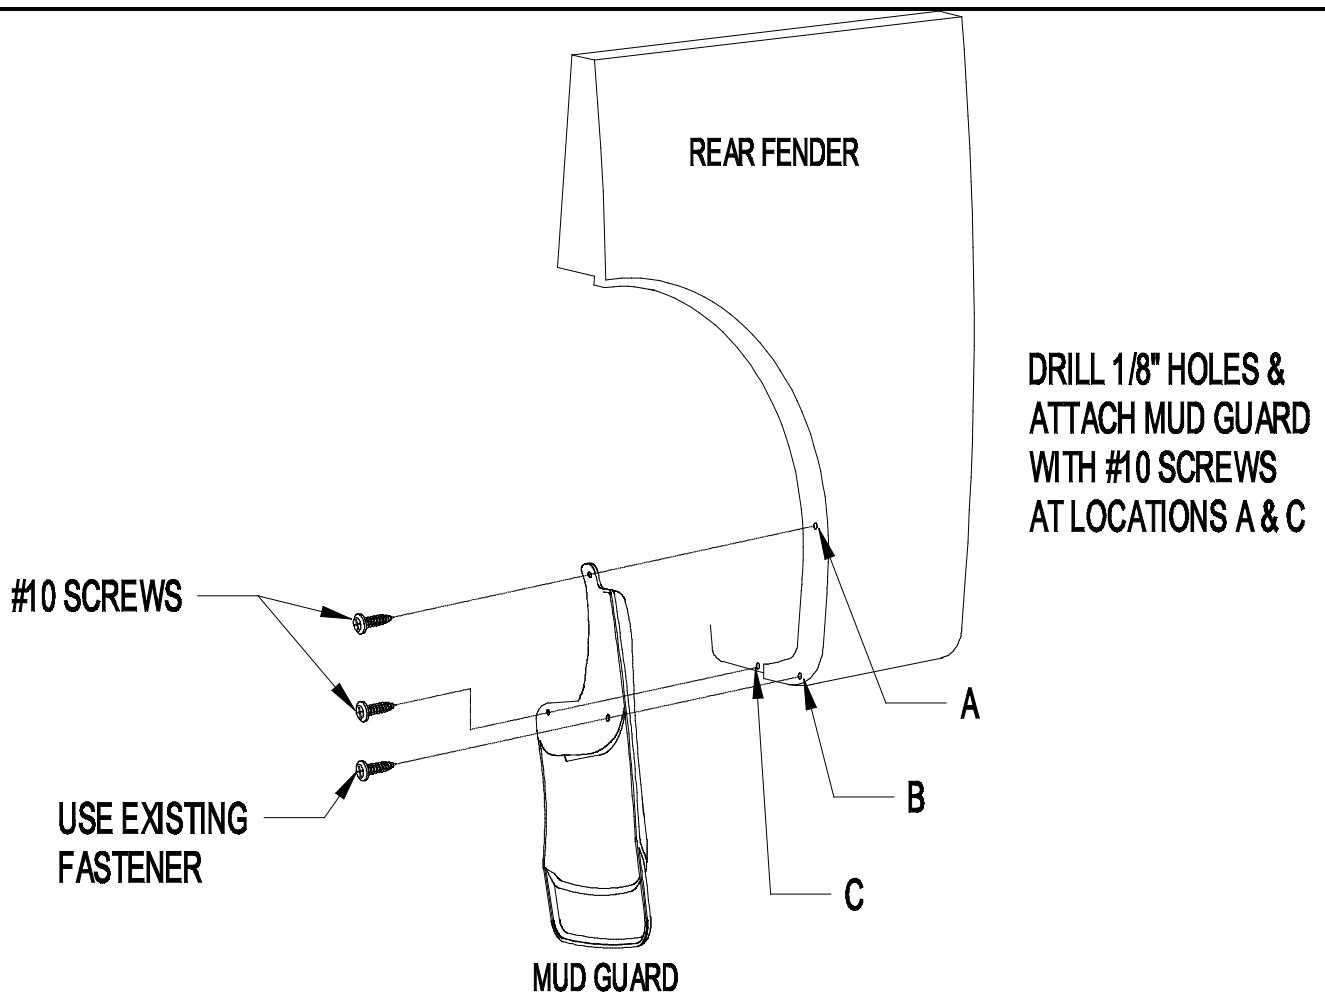

Figure 1
2. Remove factory fastener from location B and attach mud guard to fender with factory fastener (Figure 1).